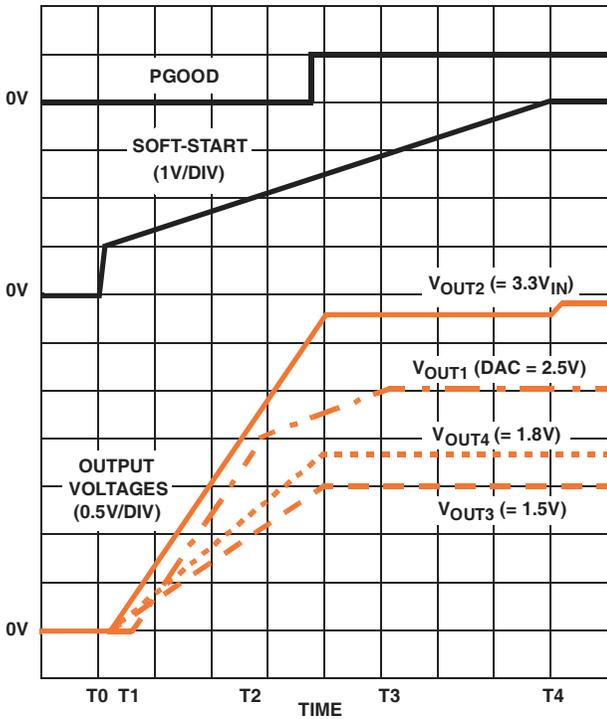
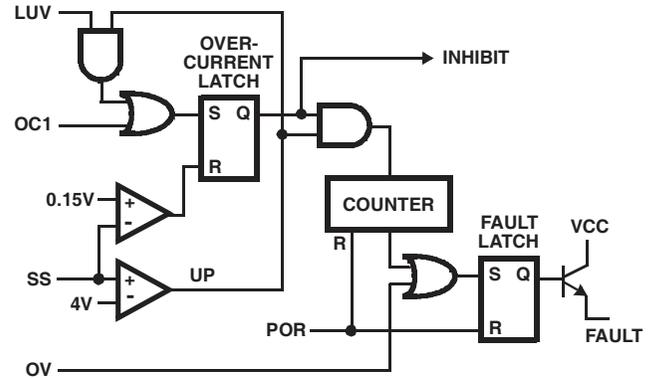

FIGURE 2. SOFT-START INTERVAL
FIGURE 3. FAULT LOGIC - SIMPLIFIED SCHEMATIC
Figure 2 shows the soft-start sequence for the typical application. At t_0 the SS voltage rapidly increases to approximately 1V. At t_1 , the SS pin and error amplifier output voltage reach the valley of the oscillator's triangle wave. The oscillator's triangular waveform is compared to the clamped error amplifier output voltage. As the SS pin voltage increases, the pulse width on the PHASE pin increases. The interval of increasing pulse width continues until each output reaches sufficient voltage to transfer control to the input reference clamp. If we consider the 2.5V core output (V_{OUT1}) in Figure 2, this time occurs at t_2 . During the interval between t_2 and t_3 , the error amplifier reference ramps to the final value and the converter regulates the output a voltage proportional to the SS pin voltage. At t_3 the input clamp voltage exceeds the reference voltage and the output voltage is in regulation.
Figure 3 shows a simplified schematic of the fault logic. An overvoltage detected on VSEN1 immediately sets the fault latch. A sequence of three overcurrent fault signals also sets the fault latch. The overcurrent latch is set dependent upon the states of the overcurrent (OC), linear undervoltage (LUV) and the soft-start signals. A window comparator monitors the SS pin and indicates when C_{SS} is fully charged to 4V (UP signal). An undervoltage on either linear output (VSEN2, VSEN3, or VSEN4) is ignored until after the soft-start interval (t_4 in Figure 2). This allows V_{OUT2} , V_{OUT3} , and V_{OUT4} to increase without fault at start-up. Cycling the bias input voltage (+12V_{IN} on the VCC pin off, then on) resets the counter and the fault latch.
Initially, the soft-start function clamps the error amplifier's output of the PWM converter. This generates PHASE pulses of increasing width that charge the output capacitor(s). After the output voltage increases to approximately 70% of the set value, the reference input of the error amplifier is clamped to a voltage proportional to the SS pin voltage. The resulting output voltages start-up as shown in Figure 2.